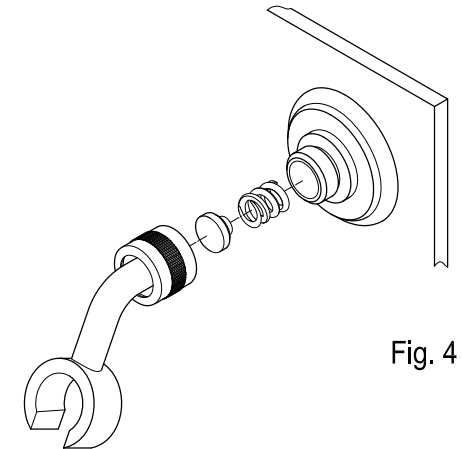

Fig. 4
- Step 5. Place the spring, metal washer and bracket set in the base and hand tighten in clockwise till fully secure (fig. 4).